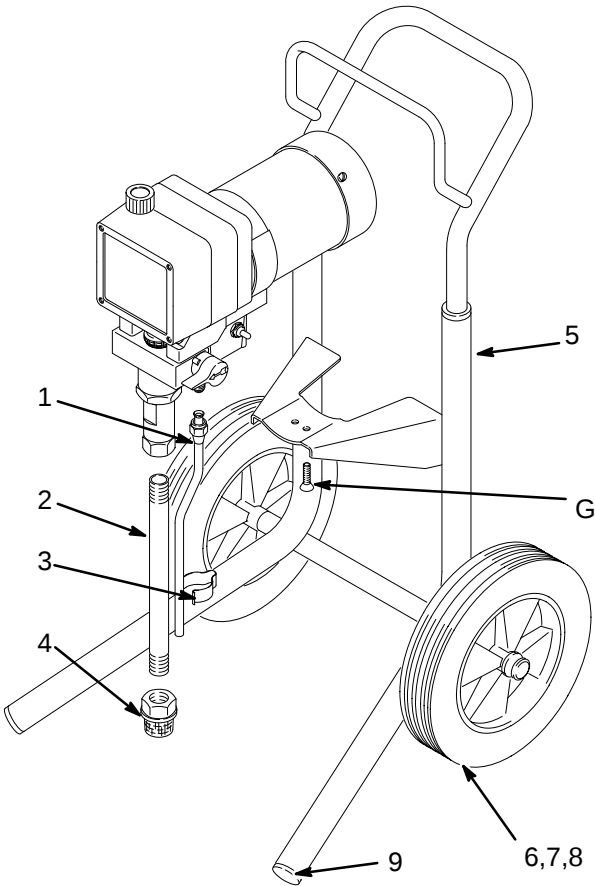

Fig 3 02584
6. Remove the two screws which hold the motor from the bottom of the motor mounting plate. Keep the screws (G). See Fig 3.
7. Mount the sprayer to the new cart using the screws (G). Tighten to 50–55 in-lb (5.6–6.2 N.m).
8. Apply thread sealant (supplied) to the short threaded end of the suction tube (2). Screw the suction tube tightly into the pump. Screw on the strainer (4) until it is about 0.4 in. (10 mm) from the wire screen. See Fig 3.
9. Screw the drain tube (1) onto the drain valve nipple and position it as shown. Secure the tube to the pump with the clip (3) placed about 2 in. (50 mm) from the bottom. See Fig 3.